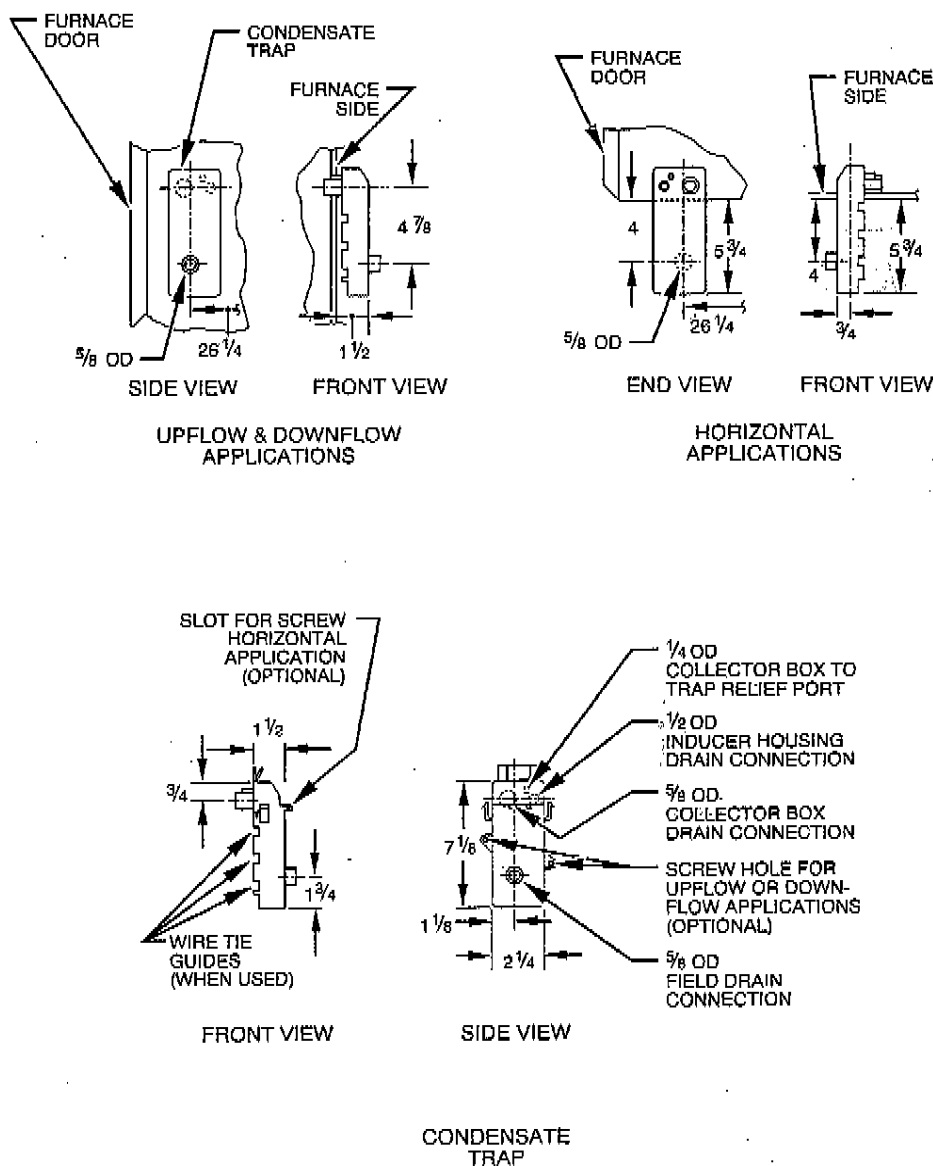

Fig. 5—Condensate Trap
- After condensate trap is installed, determine proper length of tube to connect LOWER collector box drain connection to LARGER (5/8-in. OD) tube connection on condensate trap. (See Fig. 5.)
- After condensate trap is installed, determine proper length of tube to connect LOWER inducer housing drain connection to SMALLER 3/8-in. OD tube connection on condensate trap. (See Fig. 5.)
- After trap is installed determine proper length of tube to connect LOWER collector box drain connection to LARGER 5/8-in. OD tube connection on condensate trap. (See Fig. 5.)
- Determine proper length of tubing to connect LOWER inducer housing drain connection to SMALLER 3/8-in. OD tube connection on condensate trap. (See Fig. 5.)
- After trap is installed, determine proper length of tube to connect LOWER collector box drain connection to LARGER 5/8-in. OD tube connection on condensate trap. (See Fig. 5.)
- After trap is installed, determine proper length of tube to connect LOWER inducer housing drain connection to SMALLER 3/8-in. OD tube connection on condensate trap. (See Fig. 5.)
CAUTION: The condensate trap **MUST** be installed below furnace. See Fig. 5 for dimensions. The drain connection to condensate trap must also be properly sloped to an open drain.
- c. Determine proper length of tube to connect LOWER inducer housing drain connection to SMALLER 3/8-in. OD tube connection on condensate trap. (See Fig. 5.)